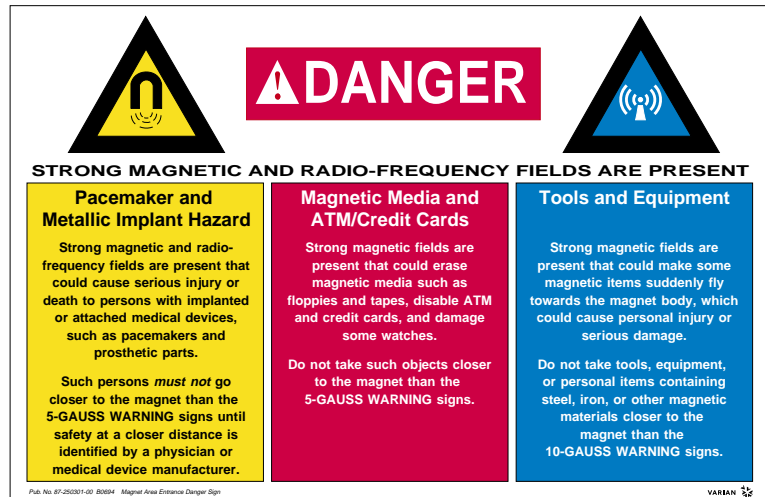

Figure 10. Magnet Area Danger Sign
- Magnet area danger signs (Figure 10) – Post at each entrance to the magnet area. Be sure each sign is outside the 5-gauss perimeter.